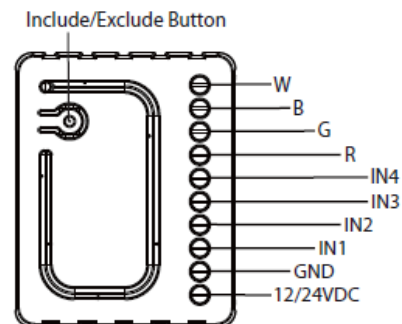

Fig.1 Terminals Description
- 2) Refer to Fig.1 Terminals Description, and solder the stranded wire to the metal contacts of the RGBW strip.